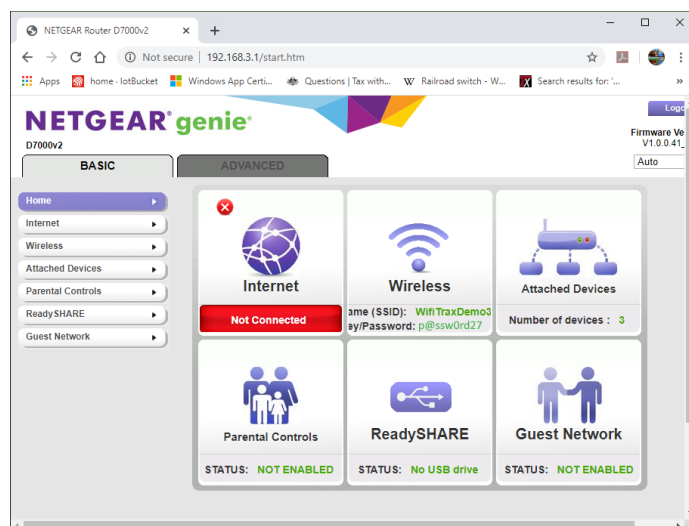

Figure 22 A typical router admin page
- (4) Once you have given the credentials, you will see the admin page. A typical one is shown for a Netgear D7000 in Figure 22. Find the "Attached Devices" option and click on it.